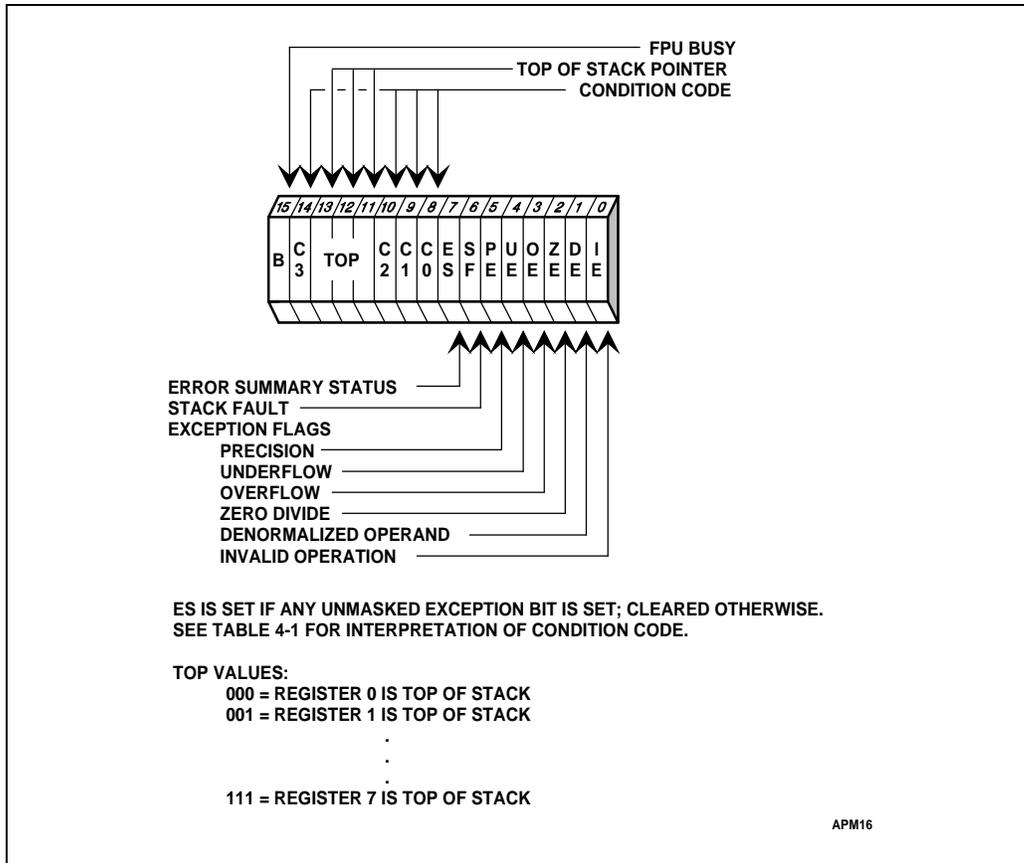

Figure 6-2. FPU Status Word
The 16-bit status word shown in Figure 6-2 reflects the overall state of the FPU. This status word may be stored into memory using the *FSTSW/FNSTSW*, *FSTENV/FNSTENV*, and *FSAVE/FNSAVE* instructions, and can be transferred into the *AX* register with the *FSTSW AX/FNSTSW AX* instructions, allowing the FPU status to be inspected by the Integer Unit.
Figure 6-2 shows the six exception flags in bits 0-5 of the status word. Bit 7 is the exception summary status (ES) bit. ES is set if any unmasked exception bits are set, and is cleared otherwise. Bits 0-5 indicate whether the FPU has detected one of six possible exception conditions since these status bits were last cleared or reset. (For definitions of exceptions,